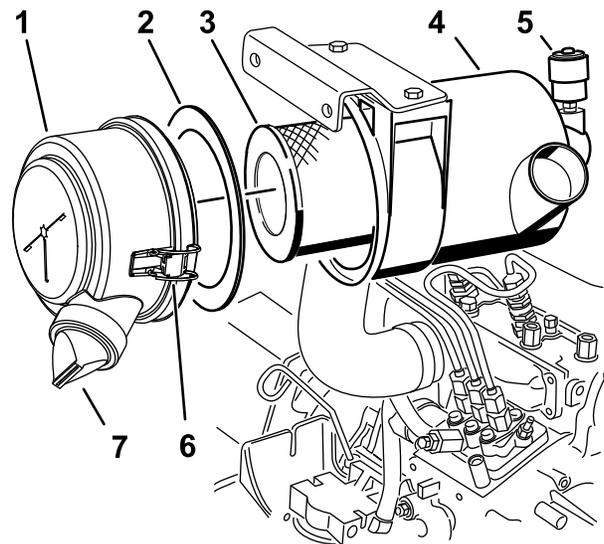

Figure 31
3. Service the air-cleaner filter (Figure 31).